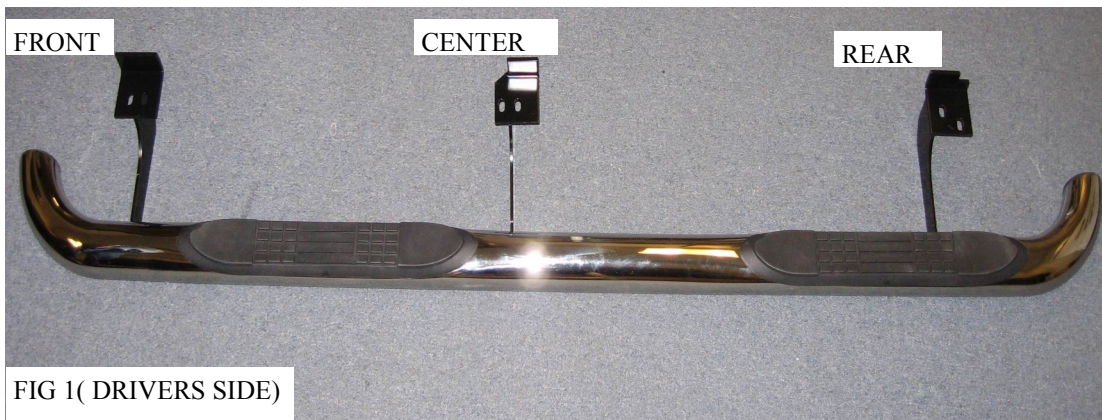

FIG 1(DRIVERS SIDE)
2. Begin installation by working on driver side of the vehicle(refer to Figure 1)